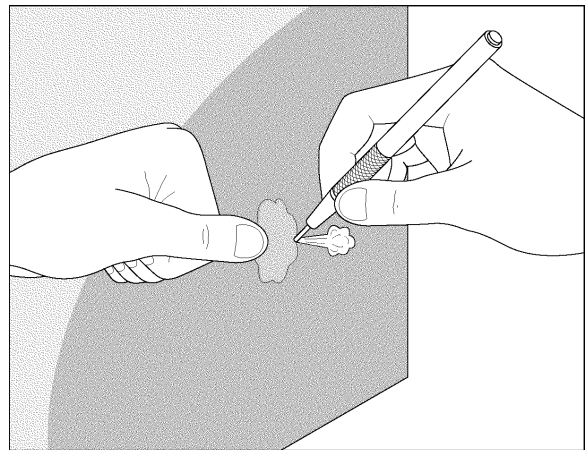

Figure 7. Using a Pin to Remove Bubbles
1. To remove entrapped bubbles, puncture the film at one end of the bubble with a pin or other sharp, round pointed tool, such as 3M™ Air Release Tool 391X. Press out the entrapped air or wetting solution with the thumb or squeegee, moving toward the puncture. See Figure 7.